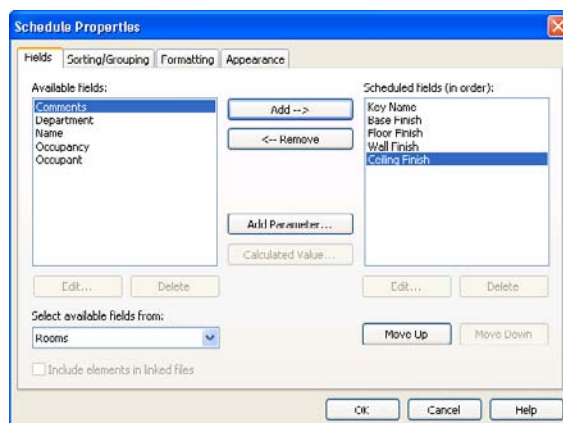

Figure 11.11
10. Using Figure 11.11 as a reference, create rows and key values for the room names Instruction, Men, and Women. The key schedule will open, and it will look similar to a component schedule (Figure 11.11).